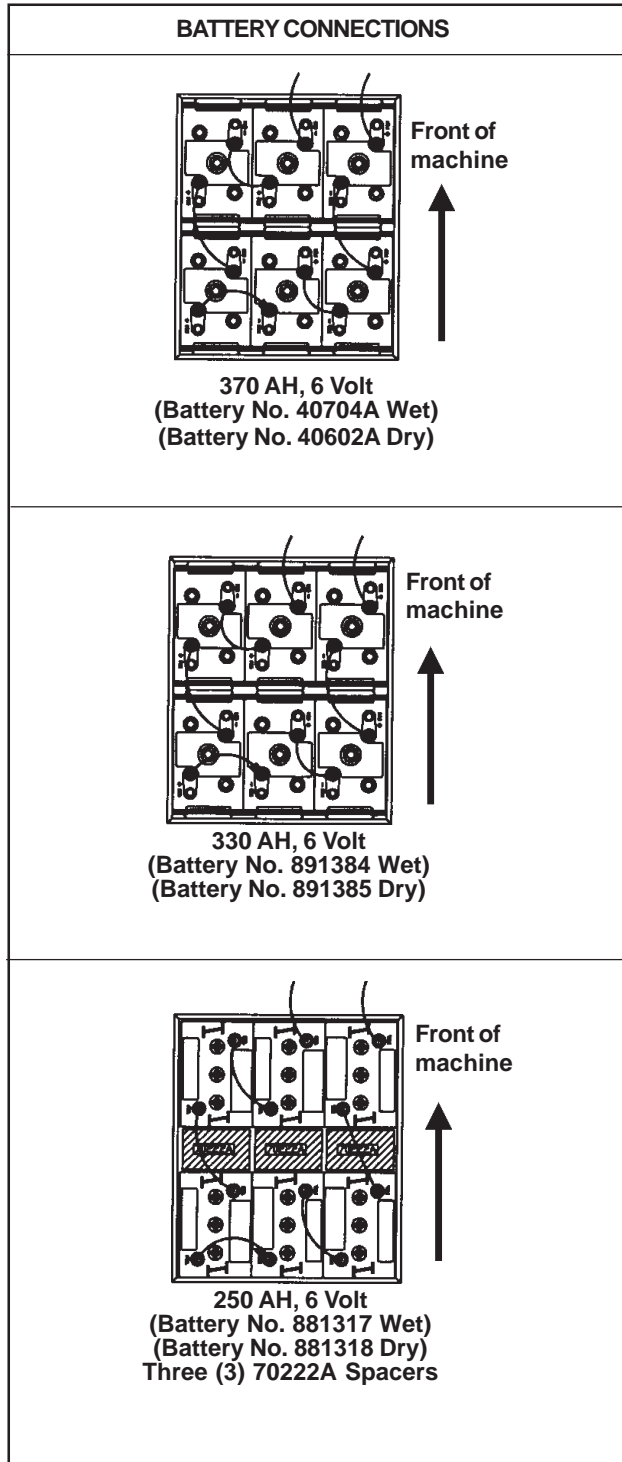

Figure 4
The batteries are fitted in the battery compartment under the seat and recovery tank (figure 4). The machine uses six - 6 volt batteries. They must be handled by using appropriate lifting equipment suitable for the weight and for the coupler system. For maintenance and daily recharge of the batteries, it is necessary to follow all instructions given by the manufacturer.
For Battery Installation follow these steps (See figure 4):
5. Put the batteries into position and connect the battery cables as shown in figure 4.